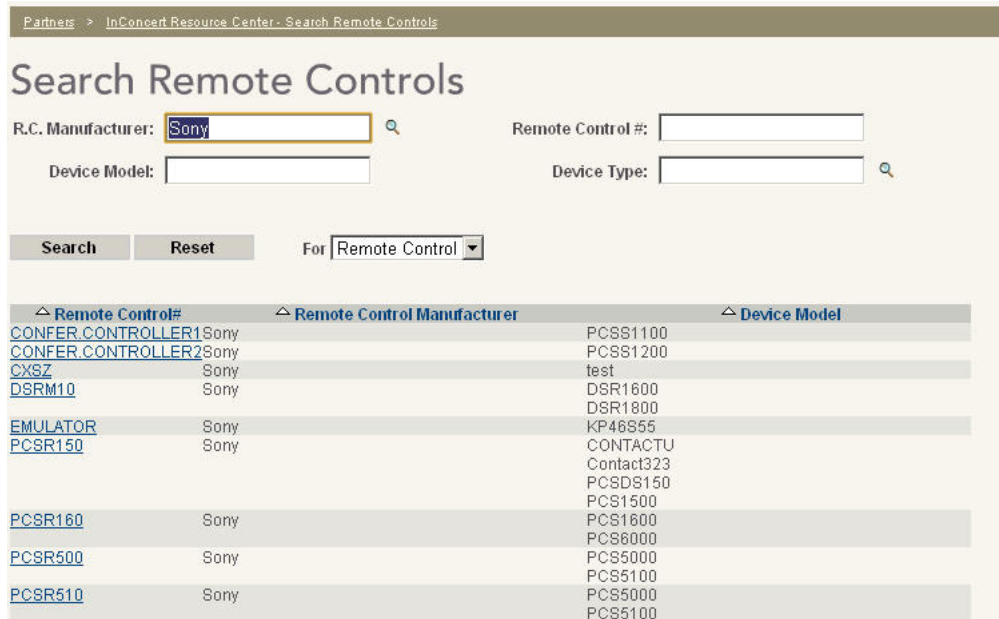

FIG. 70 InConcert Resource Center - Search Results page
5. The results of any search operation are displayed on the selected Search page (FIG. 70):